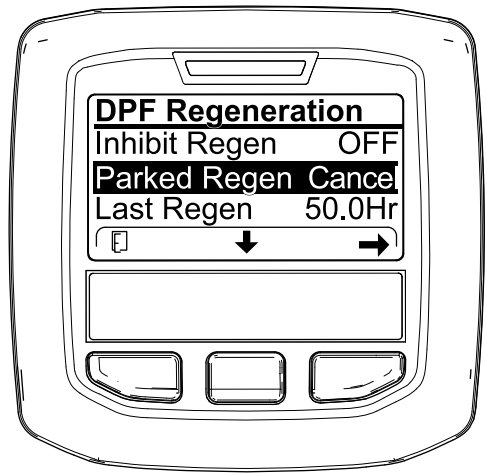
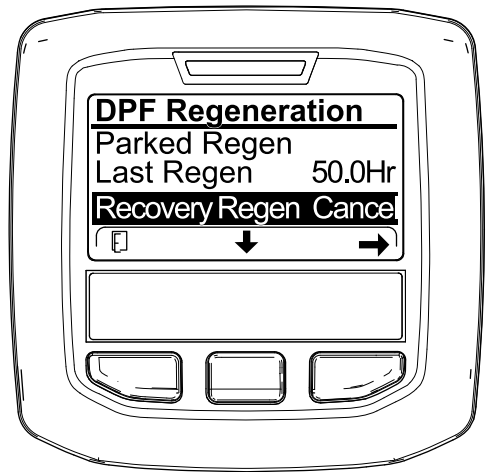

Figure 61
Figure 62
1. Access the DPF Regeneration menu (Figure 61).
2. Press the center button to scroll down to the PARKED REGEN CANCEL (Figure 61) or the RECOVERY REGEN CANCEL option (Figure 62).
3. Press the right button to select the Regen Cancel entry (Figure 61 or Figure 62).